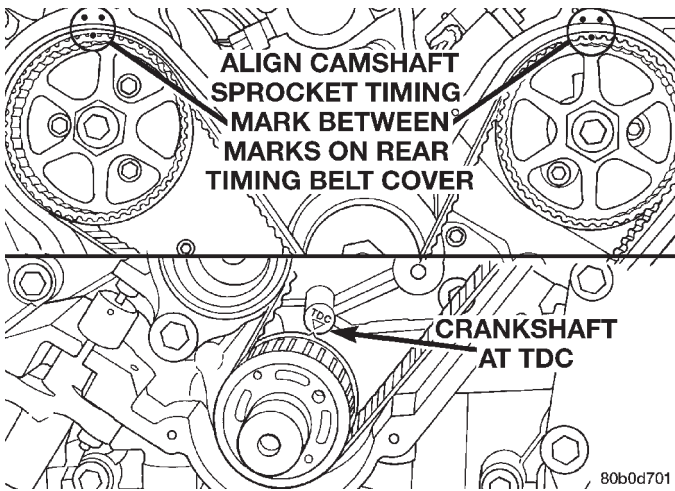

Fig. 52 Camshaft Sprocket Timing Marks
(5) Install camshaft sprockets onto the camshafts. Install **NEW** sprocket attaching bolts into place. The 255 mm (10 in.) bolt is to be installed in the left camshaft and the 213 mm (8 3/8 in.) bolt is to be installed into the right camshaft. **Do not tighten the bolts.** Camshaft sprocket mark should be positioned between the marks on the cover (Fig. 52) at both sprocket.